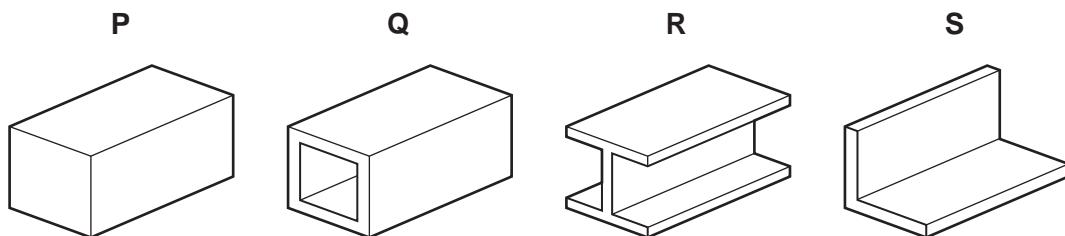

Fig. 12
- (f) Fig. 12 shows a variety of different sections for beams.
- (g) The beams shown in Fig. 12 are to be made from mild steel.